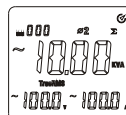

Figure 9-4
- As shown in Figure 9-4, please press “ Σ ” key to measure total three-phase power. Current measured power of the 2nd phase location also shall be calculated and saved.